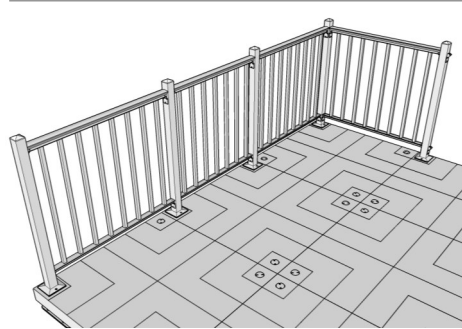

Fig. 53
25. Install an End Post 40" from the previously install In-Line Post (Fig. 53) and hang a 3'-2" Railing section between the two. Secure with fasteners.